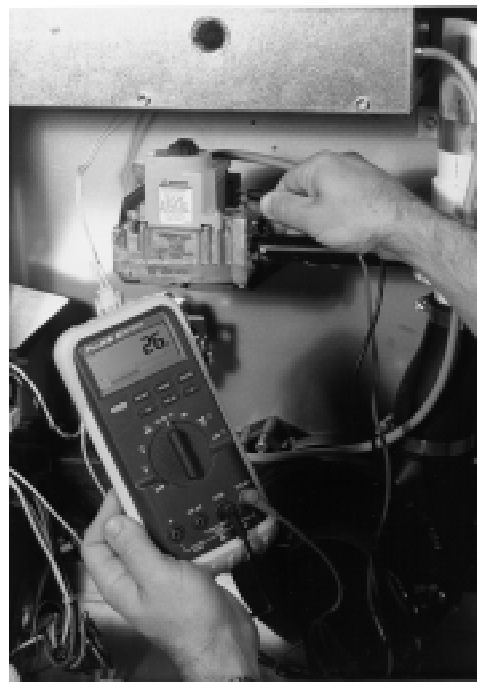

Figure 47.
3. After furnace has operated for approximately 60 seconds, the gas valve receives 24 vac from the control board. (See Figure 47.)